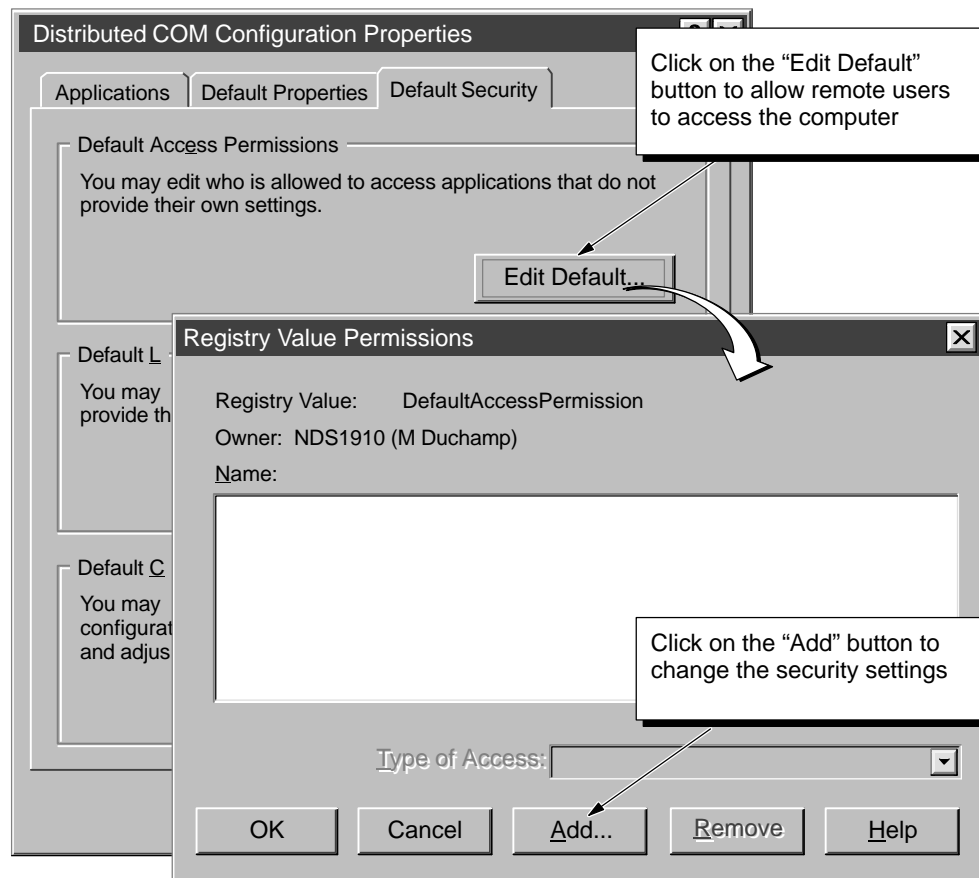

Figure E-5 Configuring the Default Access Permissions for DCOM
1. Click on the “Default Security” tab to display the security options for DCOM. See Figure E-5.
8. Click on the “OK” button of the “Registry Value permissions” dialog box to enter the changes to the default access permissions. The “Registry Value permissions” dialog box closes and displays the “Distributed COM Configuration Properties” dialog box (Figure E-5).